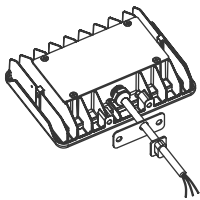

Fig. 1.1
2. Pass the wire through hardware and rubber gasket (Fig. 1.1).